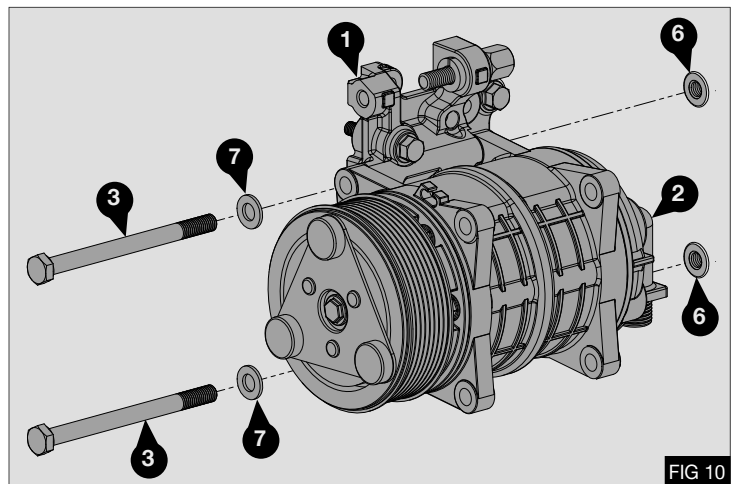

FIG 10
- Install the compressor to the mount bracket  using the supplied bolts  fitted with washers  and nuts . Torque bolts  to 58 Nm / 43lb ft using a calibrated torque wrench - Fig 10